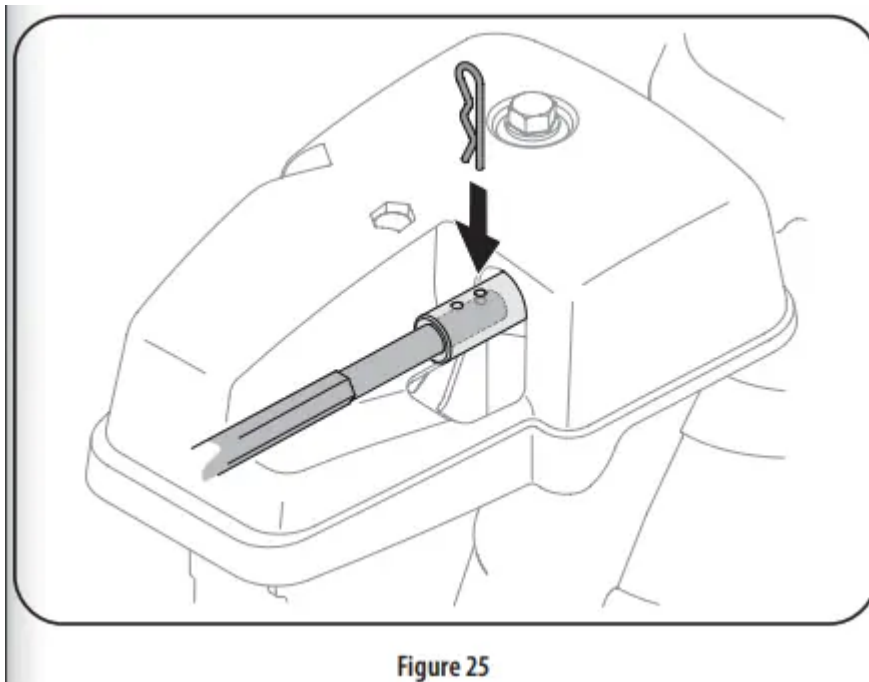

Figure 25
7. Push chute control rod toward control panel until hole in rod lines up with hole in chute control input closest to chute control head and insert hairpin clip (a) removed in Step 1. See Figure 25